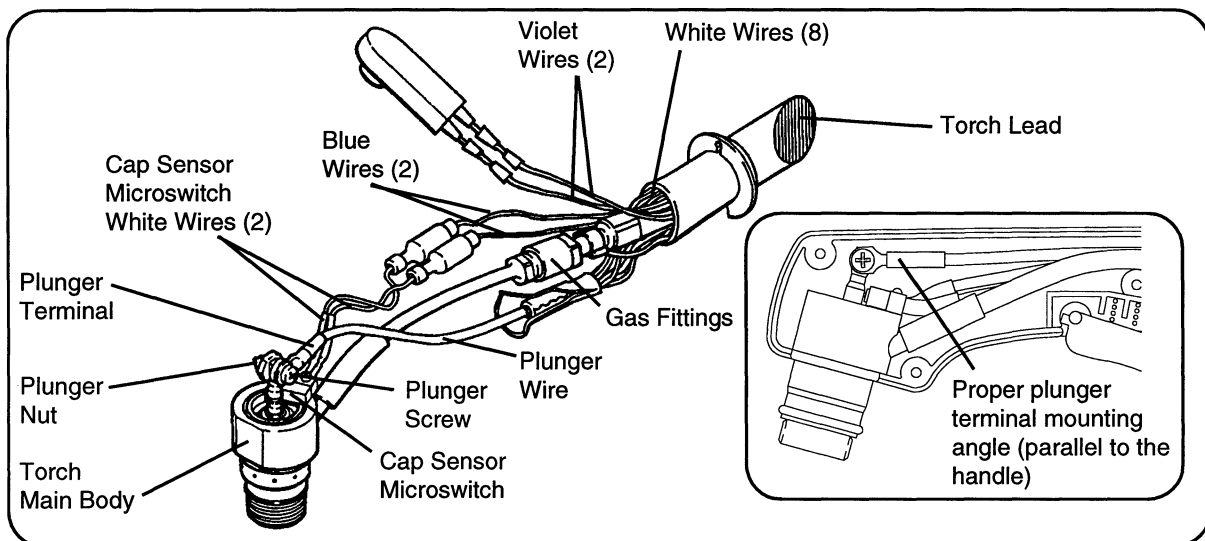

Figure 5-1 PAC125T Torch Main Body Removal
To remove and replace the torch main body, order the torch main body with cap-on sensor switch and refer to the following procedure and Figures 5-1 and 5-2.
3. Disconnect the two lead terminals (blue wire in each terminal) from the two wires of the cap sensor microswitch (Figure 5-1).
4. Disconnect the plunger wire from the torch main body by holding the plunger nut with a 1/4" (6 mm) wrench or nut driver and removing the plunger screw (Figure 5-1).
6. Replace the new torch main body by reversing these instructions. Note: When connecting the plunger wire, be certain to keep the plunger wire terminal at the proper angle as shown in the Figure 5-1 inset. Tighten the plunger screw with 8 lb-in (9 kg-cm) of torque.